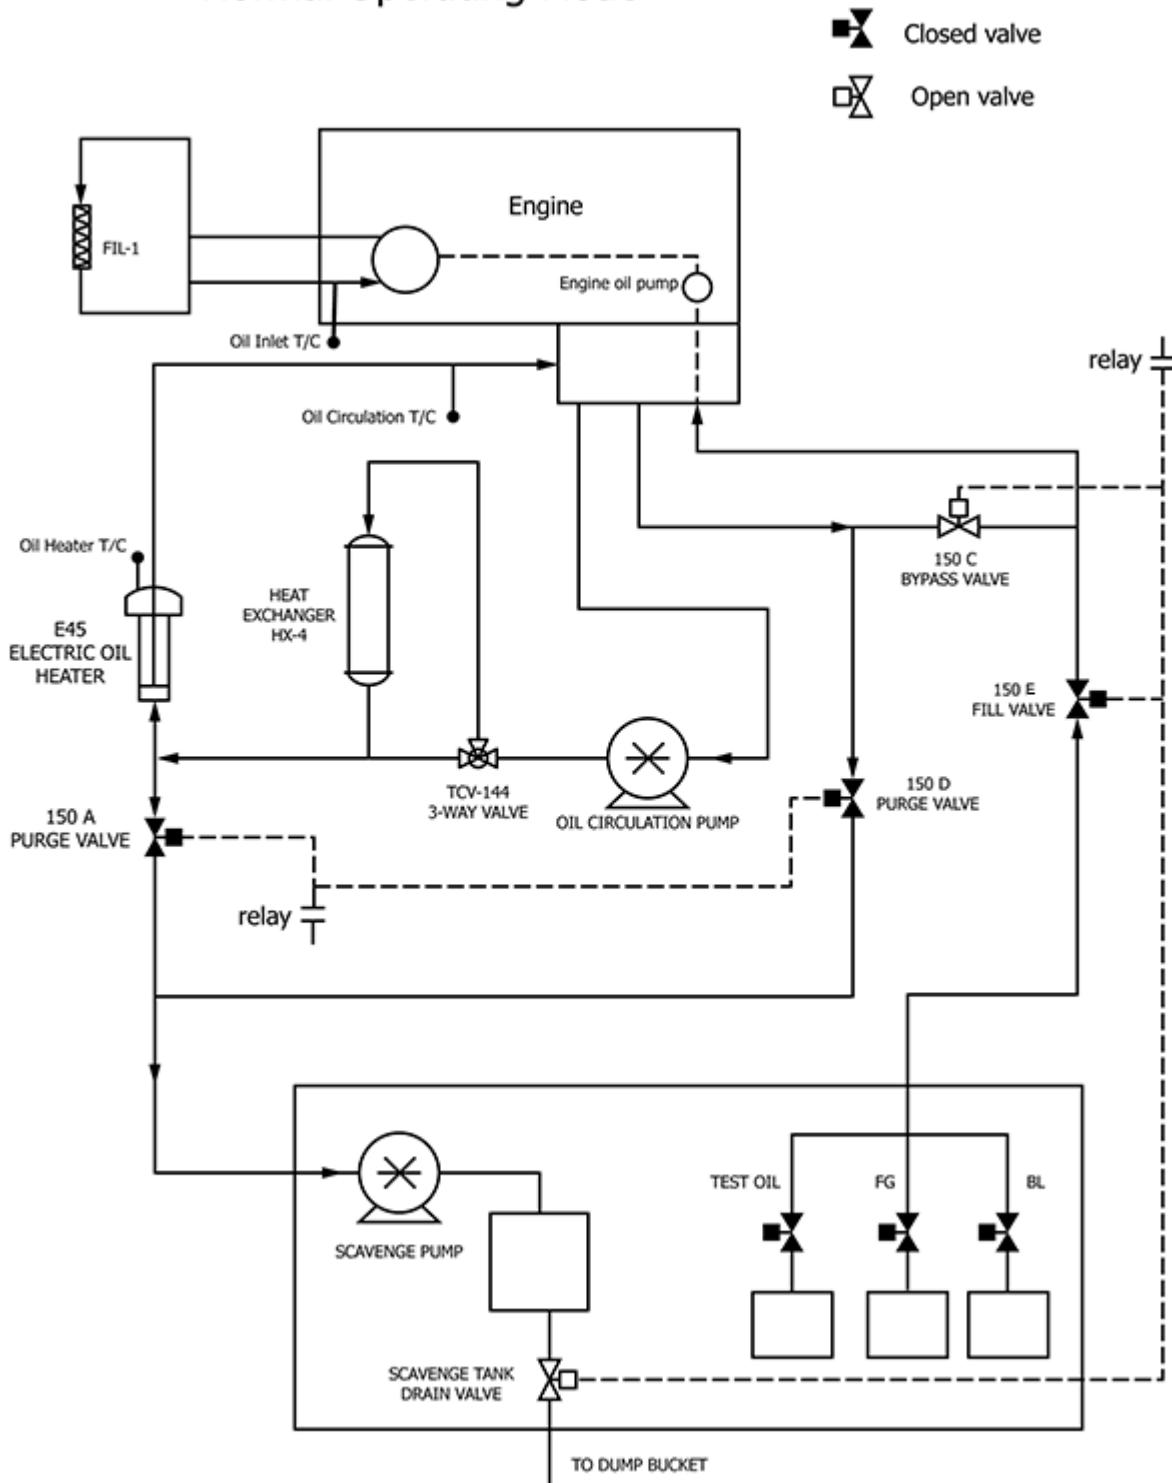

FIG. A5.6 External Oil System
3. Also, the panel was made aware of a mislabeling in Annex A5.6. The valve marked as 150F should be labelled 150E. Figure A5.6 has been corrected.